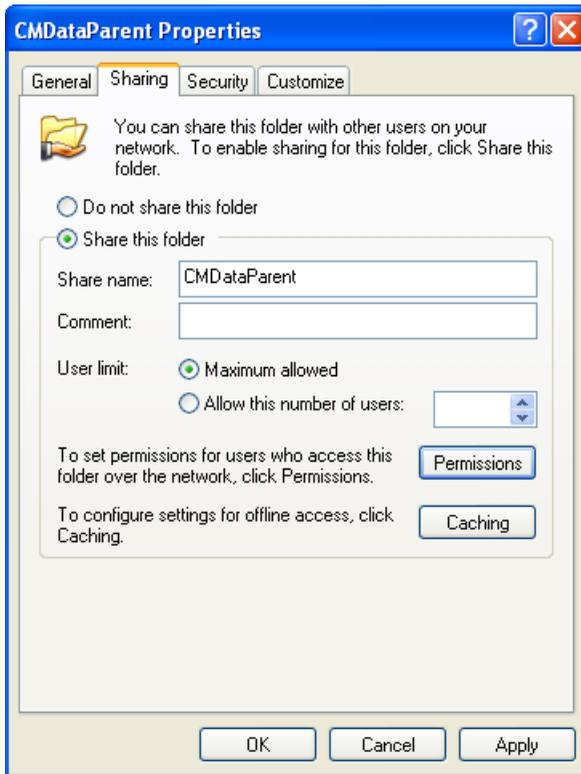

Figure C-6. *Sharing a Folder on a Domain*
- b. Click **Share this folder** (see Figure C-6).